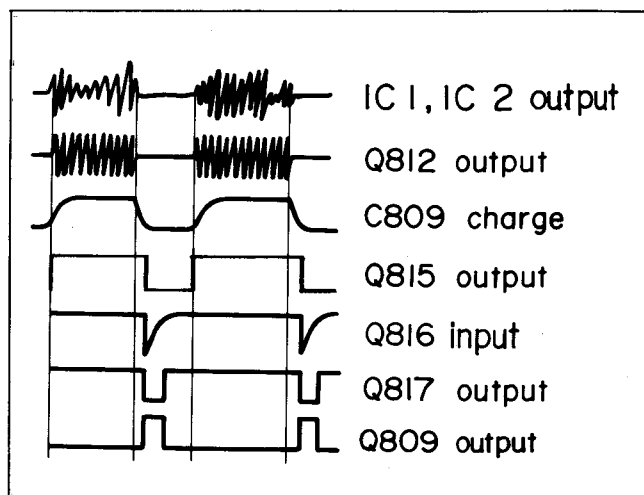

Figure 25
■ APLD COUNT PULSE GENERATOR CIRCUIT (See Figure 25)